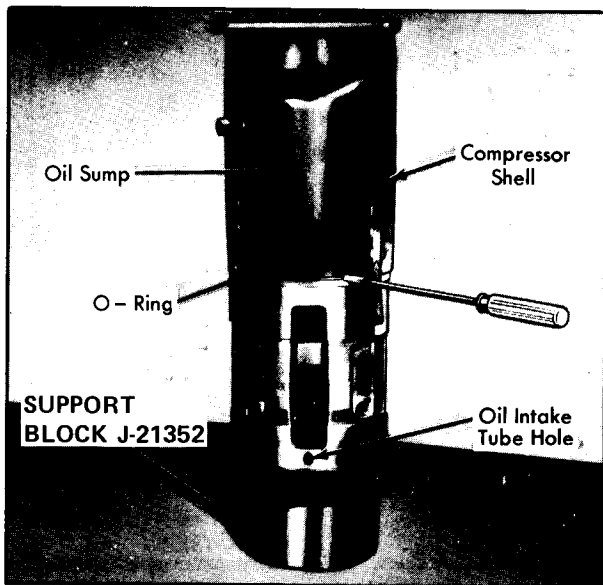

Figure 102—Installing Compressor Shell
10. Using flat-side of a small screwdriver, gently position O-ring in a round circumference of internal mechanism until compressor shell slides down over internal mechanism. As shell slides down, line up oil sump with oil intake tube hole (figure 102).